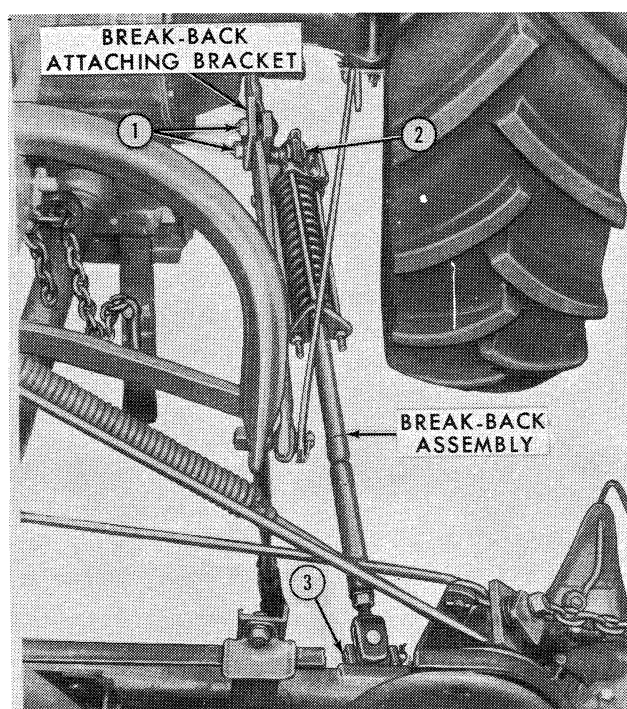

Figure 39
28. Attach the rear end of the breakback assembly, Figure 39, to its attaching bracket on the lower frame with the clevis pin (3), and cotter pin, as shown.